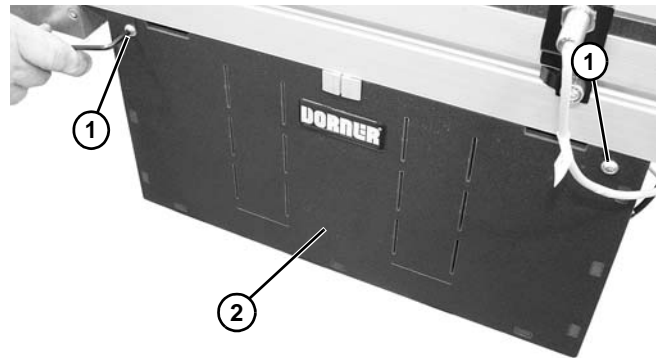

Figure 114
1. Remove button head screws (**Figure 114, item 1**) and guard kit (**Figure 114, item 2**).